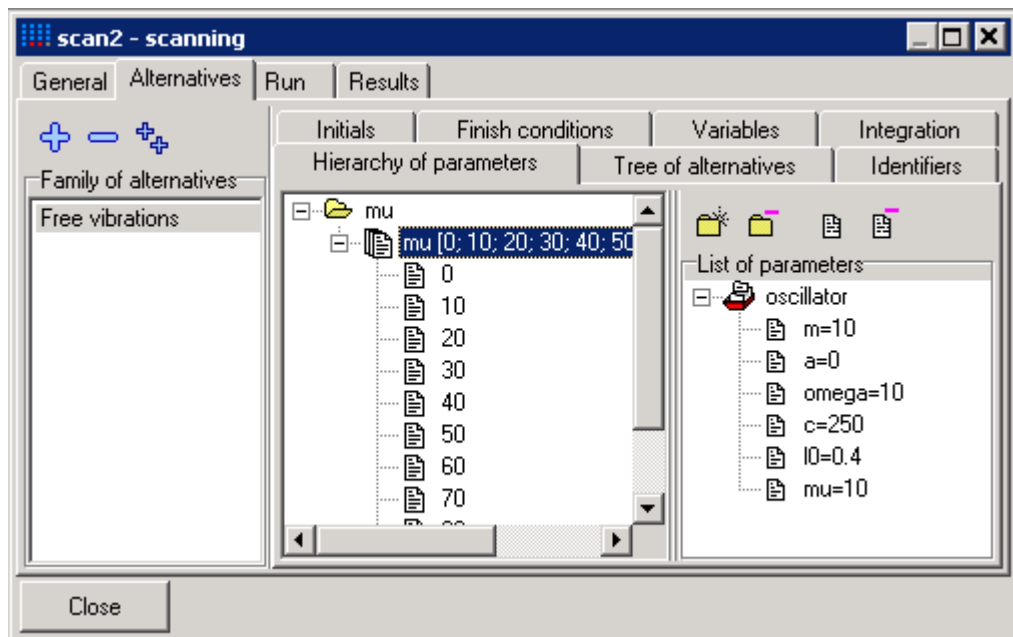

Figure 2.6. Hierarchy of parameters
3. Click the **OK** button and come back to the project window. Parameter group **mu** appears in the **Hierarchy of parameters** tab, see Fig. 2.6.